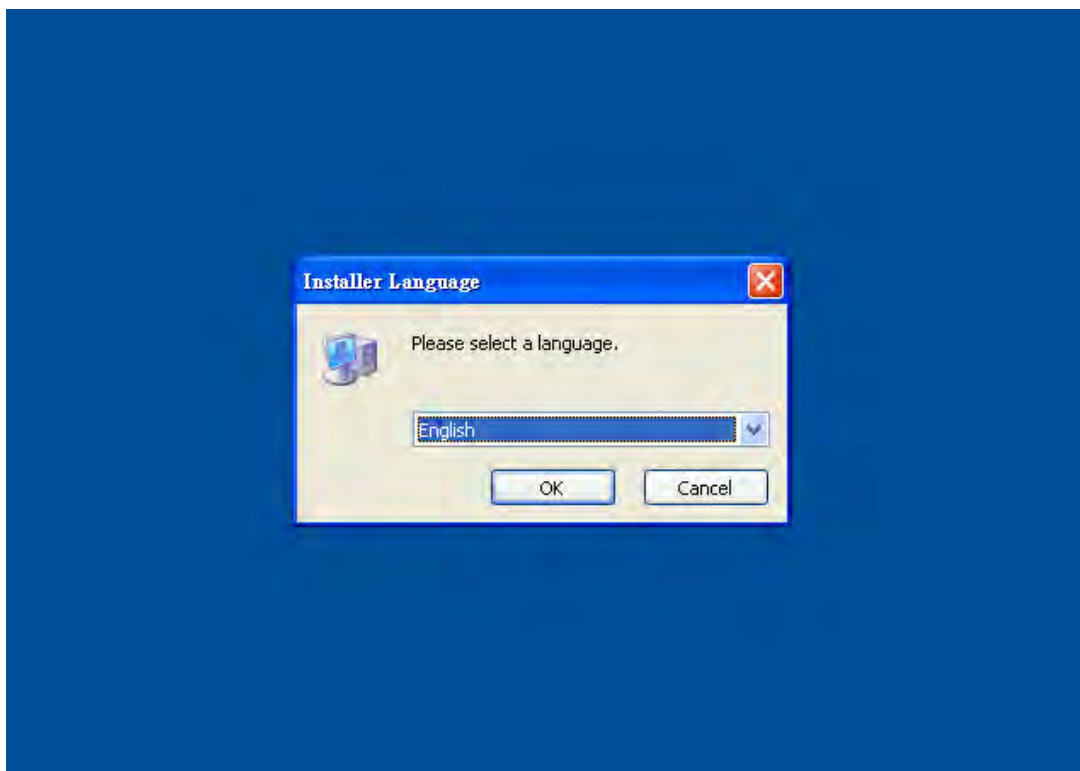

Fig. 3-1-2 Select Language
Step 2: Execute **setup.exe** from Windows taskbar by clicking “**Start**” > “**Run**”. After pressing **OK**, system will setup automatically and you will get the following dialog box to select the desired display language (Fig. 3-1-2).